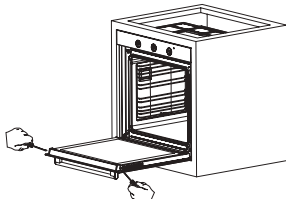
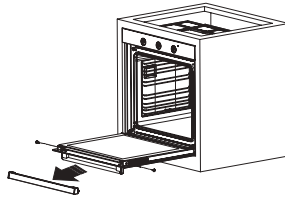
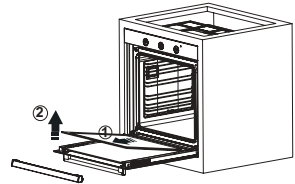

Fig. 13
Fig. 14
Fig. 15
- Remove the screws on the left and right sides as shown in Figure 13. Remove the profile by pulling it towards you as shown in Figure 14. Glass will be free after the profile is removed as shown in Figure 15. Carefully pull the glass that has become free toward you. If necessary, the middle glass can also be removed in the same way. The outer glass is fixed to the oven door profile. You may easily clean the glass once it has been released. Once the cleaning and maintenance is complete, you can replace the glasses and the profile by performing the removal procedure in reverse. Make sure that the glass is inserted in the correct direction and that the profile is seated properly.